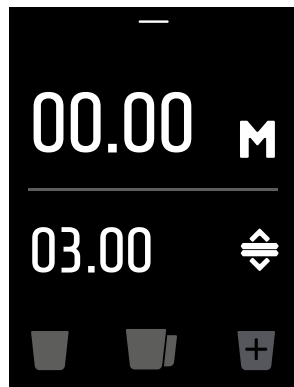

Fig. 5c
- 4 Press the start button with the filter holder (10, Fig. 1) and keep it pressed for the desired time that is shown on the display. The shot progress bar flashes (see Fig. 5c). Once the start button is released, the SweepOut (if active) starts. The display shows the time remaining for the SweepOut with the progress bar flashing.